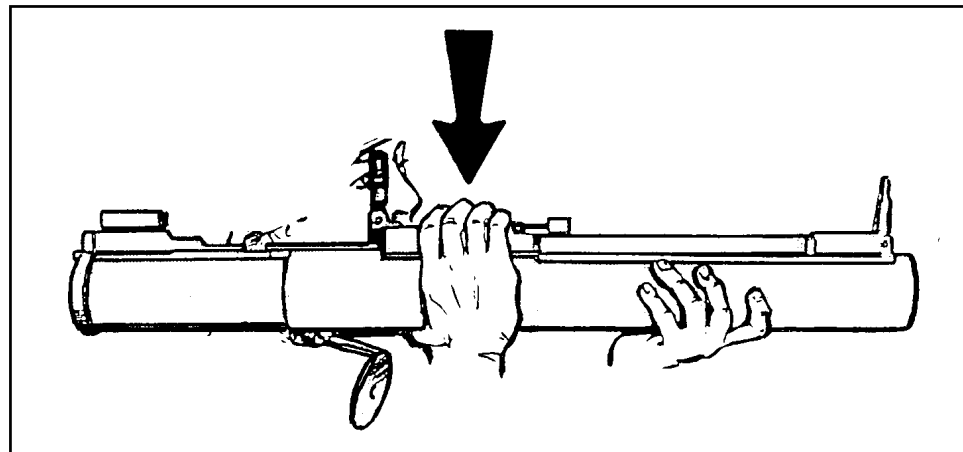

Figure 2-19. Firing the launcher.
b. To fire the rocket launcher, raise it slightly above shoulder level, rotate your body under it, and place it on your shoulder. Check the backblast area, pull the trigger arming handle to the ARM position, aim the launcher, and depress the rubber boot on the trigger bar firmly to ensure the launcher fires (Figure 2-19). (If the trigger arming handle will not remain in the ARM position, the launcher is not fully extended.) Pressing the trigger bar causes the firing pin to strike the primer, which ignites the black powder in the flash tube, which in turn ignites the propellant in the rocket motor.